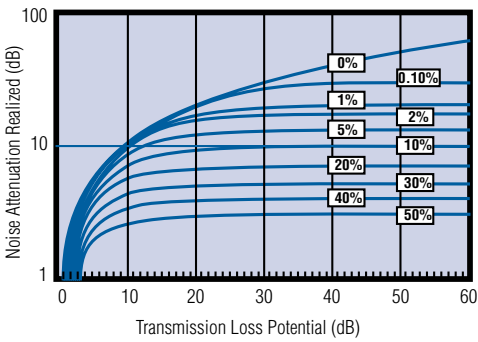

Figure 2: Performance of an Enclosure Based upon Percentage of Open Surface Area
The key to effective utilization of a barrier material lies in reducing the number and size of holes, gaps and other penetrations in the assembly to an absolute minimum, consistent with accessibility and ventilation. An overframe barrier/blanket can be used to eliminate “direct” line of sight acoustic gaps in the interior trim of an aircraft. Generally, the percentage of open area relative to the total enclosed area should never exceed 10 percent. Under ideal conditions, a 10 dB(A) reduction may be achieved with this amount of open area. If the open area can be decreased to 1 percent, the potential noise reduction improves to 20 dB(A) (See *Figure 2*).